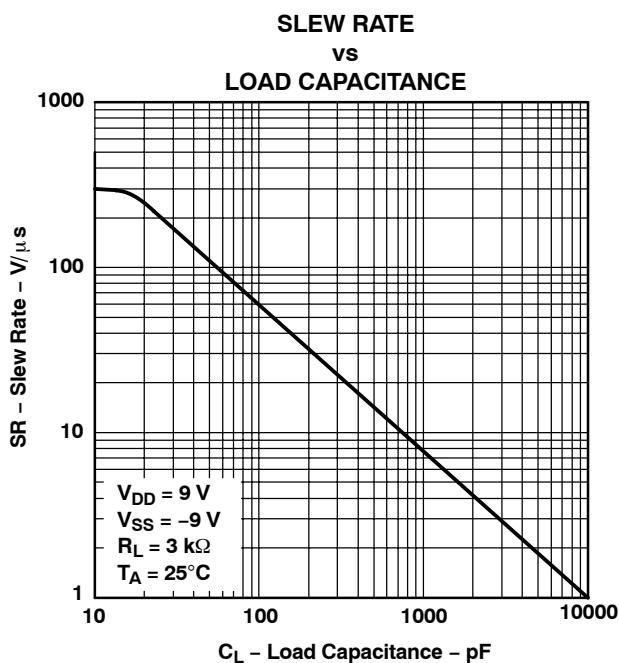

Figure 10.
(1) See Figure 10 to select the correct values for the loading capacitors ( $C_1$ ,  $C_2$ , and  $C_3$ ), which are required to meet the RS-232 maximum slew-rate requirement of  $30 \text{ V}/\mu\text{s}$ . The value of the loading capacitors required depends on the line length and desired slew rate, but typically is  $330 \text{ pF}$ .